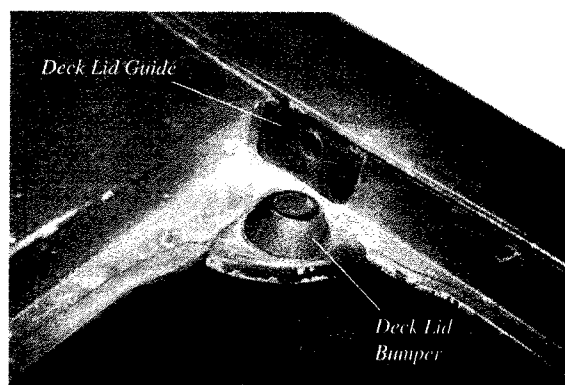

Figure 4-215 Deck Guide and Bumper
21. Attach the Deck Lid Guides in each upper corner with screw, nut, and lock washer. Install the Deck Lid bumpers in the corner plates at the two upper corners of the deck opening (Figure 4-215).